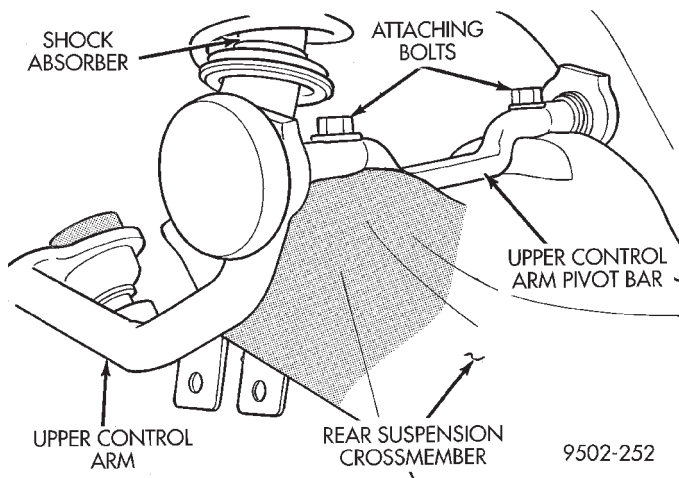
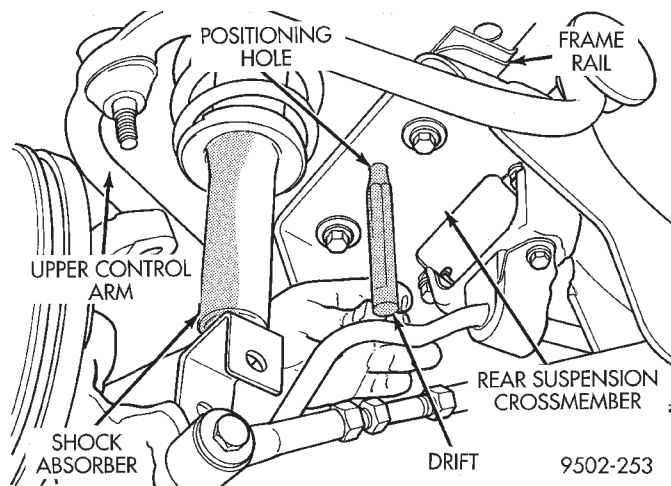

Fig. 40 Upper Control Arm Attachment To Crossmember
Fig. 41 Locating Rear Suspension Crossmember In Vehicle
(10) Lower the rear suspension arm crossmember enough to access the upper control arm pivot bar to crossmember attaching bolts (Fig. 40).
(11) Remove the 4 bolts (Fig. 40) attaching the upper control arm pivot bars to the rear suspension crossmember. Remove the control arms from the crossmember.
(3) Align the upper control arm pivot bars with the mounting holes in the rear suspension crossmember. Install the pivot bar attaching bolts and washers. Tighten the 4 pivot bar to crossmember attaching bolts (Fig. 40) to a torque of 107 N·m (80 ft. lbs.).
(4) Using transmission jack, raise rear suspension crossmember up to the rear frame rails and loosely install the 4 attaching bolts.
(5) Position a drift of the appropriate size into the positioning hole in each side of rear suspension crossmember and locating holes in the frame rail of the body. (Fig. 41). This is required to properly position the rear suspension crossmember side-to-side and front-to-rear on the body of the vehicle. Then tighten the 4 crossmember to frame rail attaching bolts to 107 N·m (80 ft. lbs.). Remove drifts from rear suspension crossmember.